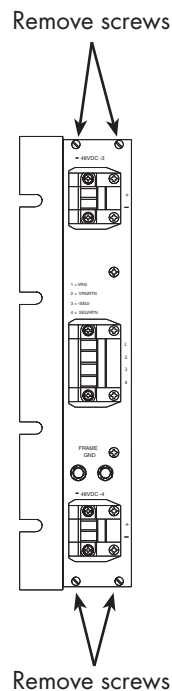

Figure 10. Removing left rear panel of chassis
1. Using a flat-head screwdriver, remove the four screws (two on top, two on bottom) on the left, rear panel of the chassis (see figure 10).